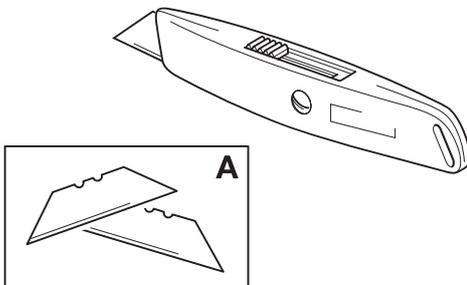

Fig 4. Craft Knife
- d** Craft Knife. → Fig 4. \(□ B-3\). The blades **4-A** are replaceable.